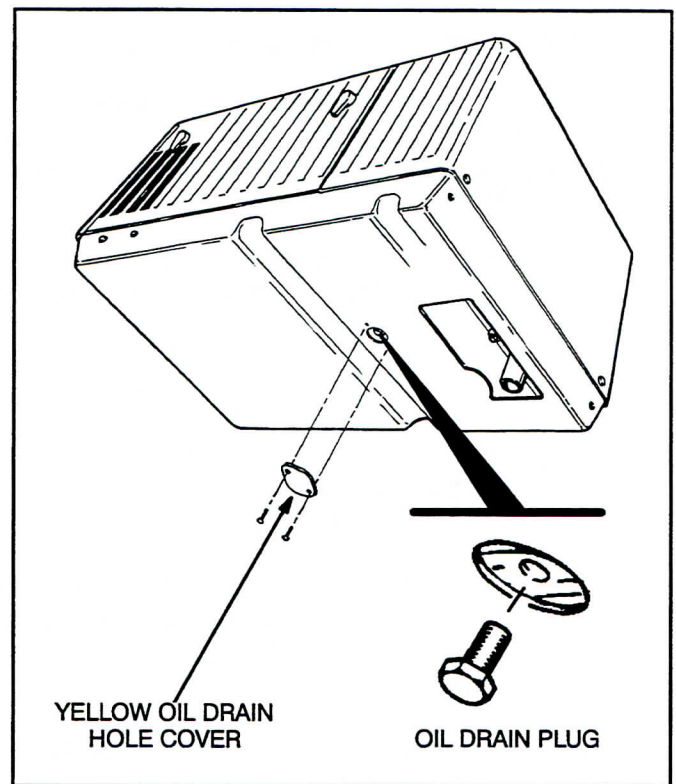

FIGURE 8. OIL DRAIN PLUG
3. Remove the yellow oil drain hole cover and unscrew the oil plug (Figure 8) and allow all of the oil to drain from the engine.